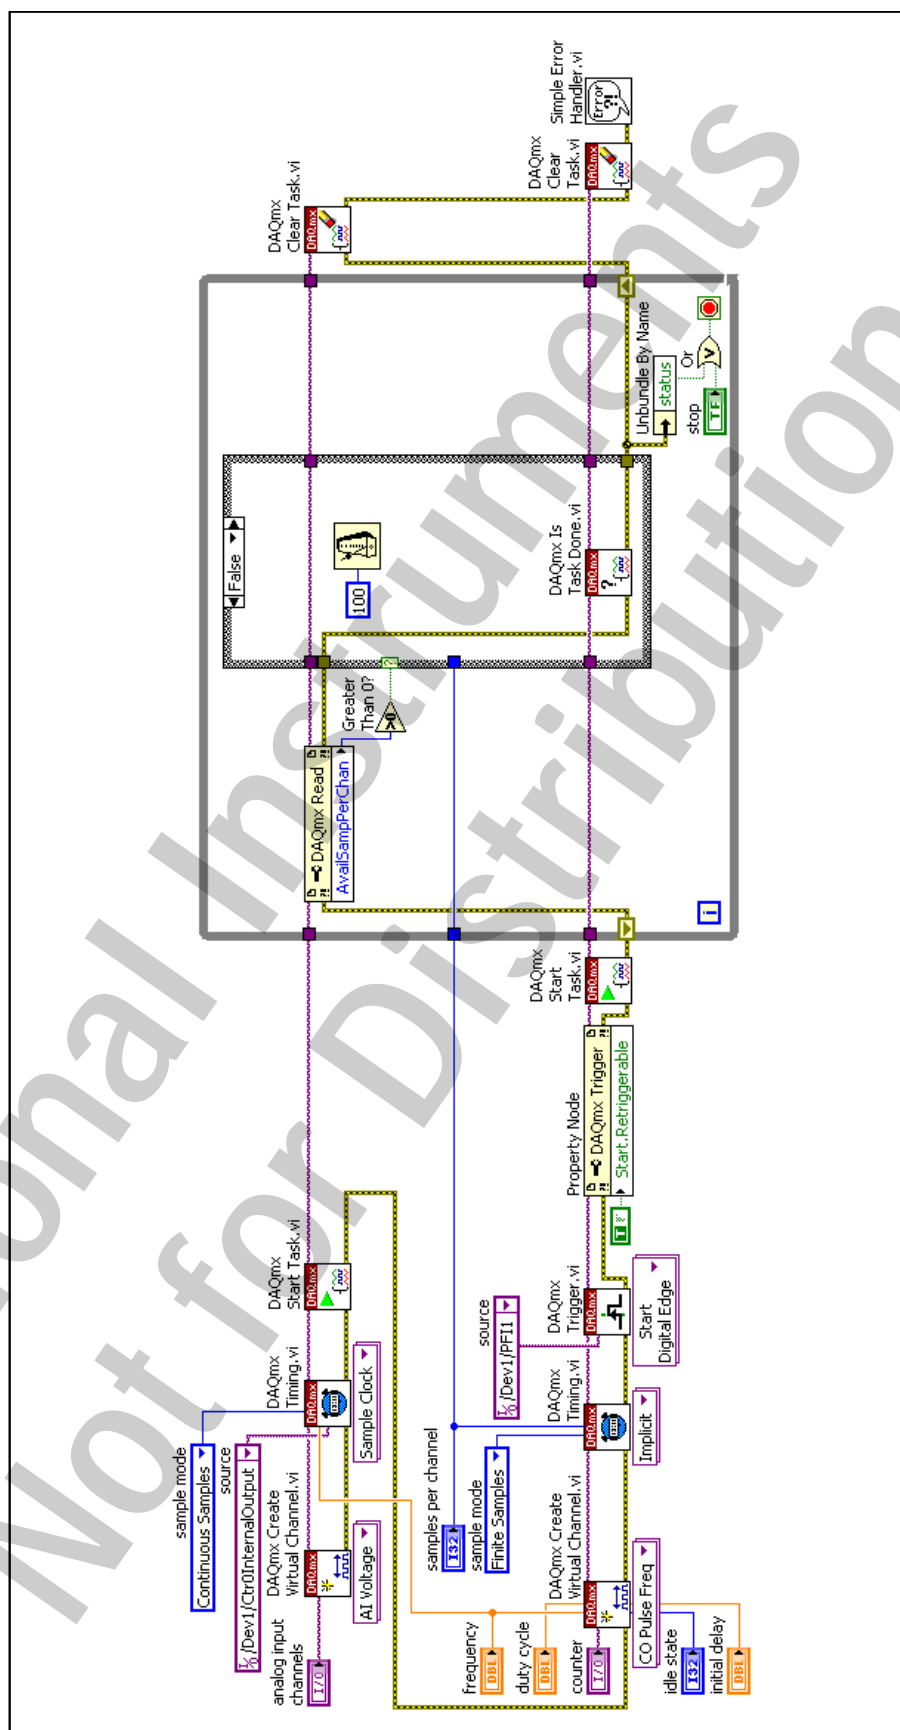

Figure 8-6. Retriggerable Analog Input (STC2)
3. Modify the block diagram to use the retriggerable counter pulse train as the sample clock for the analog input task, as shown in Figure 8-6, using the following items: